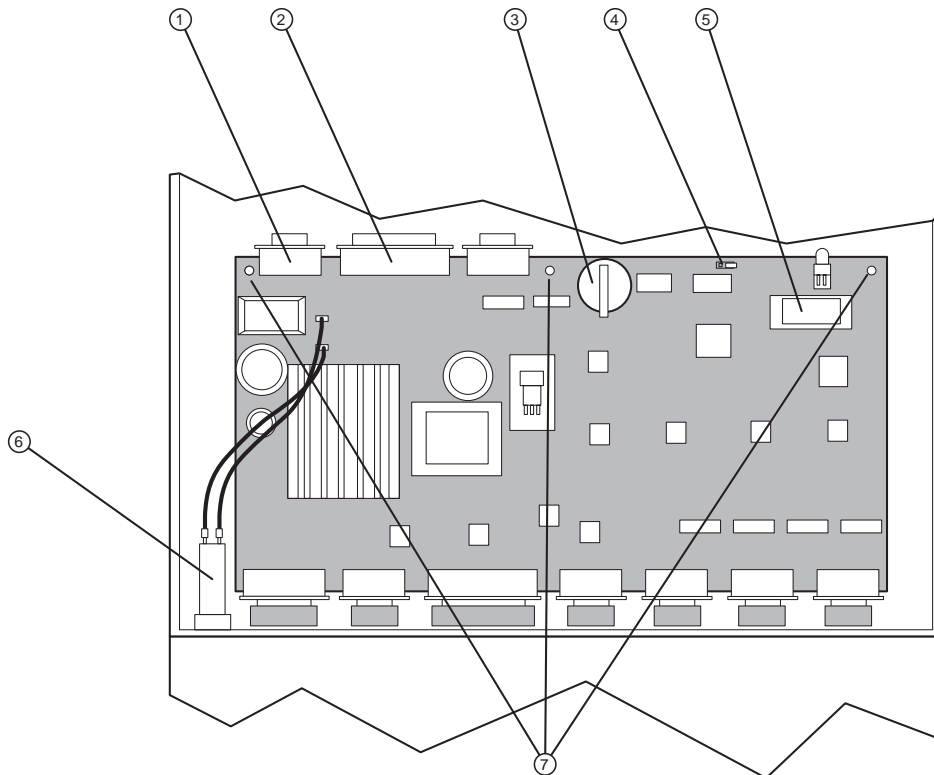

Figure 3-6 The CPU board with fuse connectors and mounting screws.
①—Three CPU cover screws. ②—CPU cover. ③—Six standoffs.
12. Remove the CPU fuse connectors from the PCB. Refer to Figure 3-6.
13. Remove the three (3) mounting screws. Refer to Figure 3-6.
NOTE: Check the battery on the new CPU and remove the paper (if present) between the battery and ground retaining clip. check and adjust the temperature display mode jumper to the preferred mode (Fahrenheit or Centigrade). Refer to Figure 3-6.